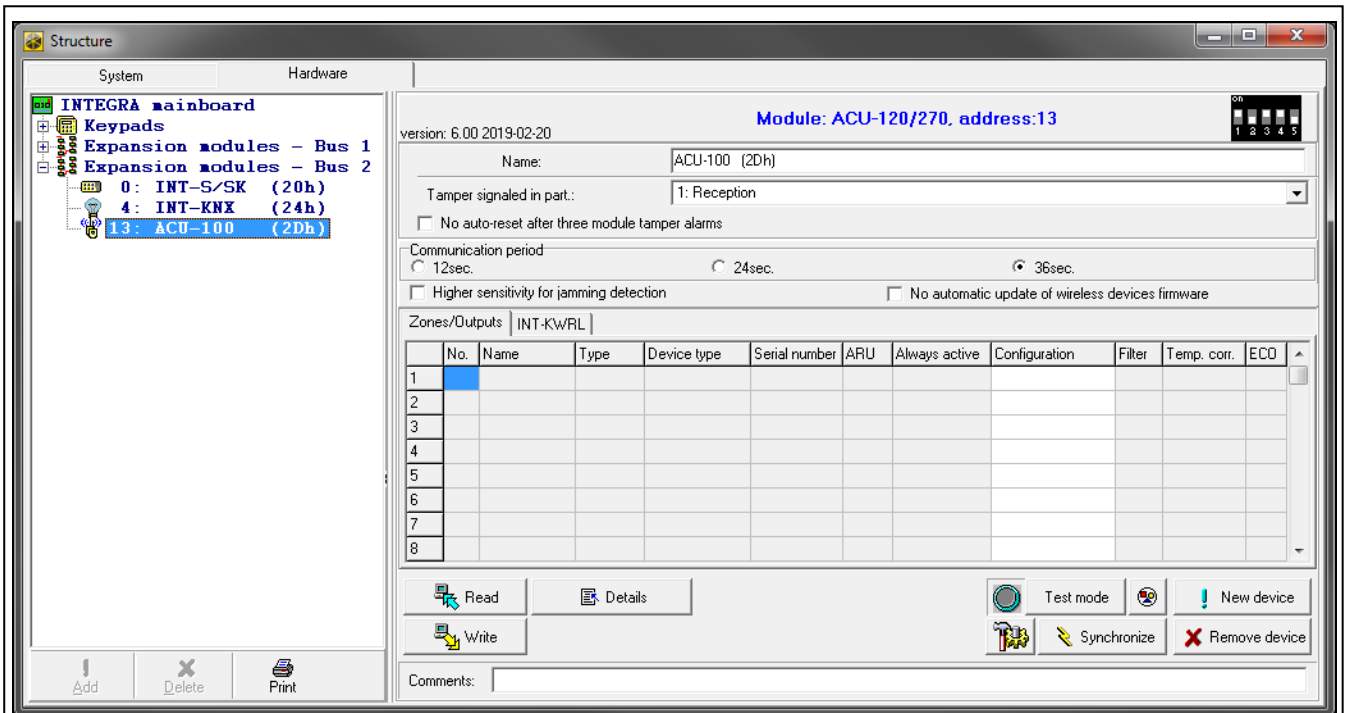

Fig. 22. DLOADX program: parameters and options of the controller connected to INTEGRA / INTEGRA Plus control panel.
- DLOADX program: “Structure” window → “Hardware” tab → “Expansion modules” branch → [controller name] (Fig. 22).